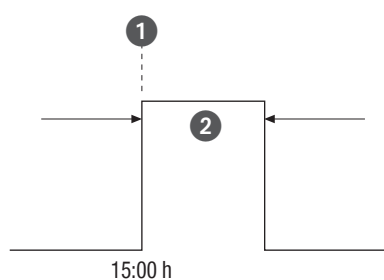

Fig. 31: Pulse switching
- (Fig. 31/①) Start time
- (Fig. 31/②) Duration = switching ON